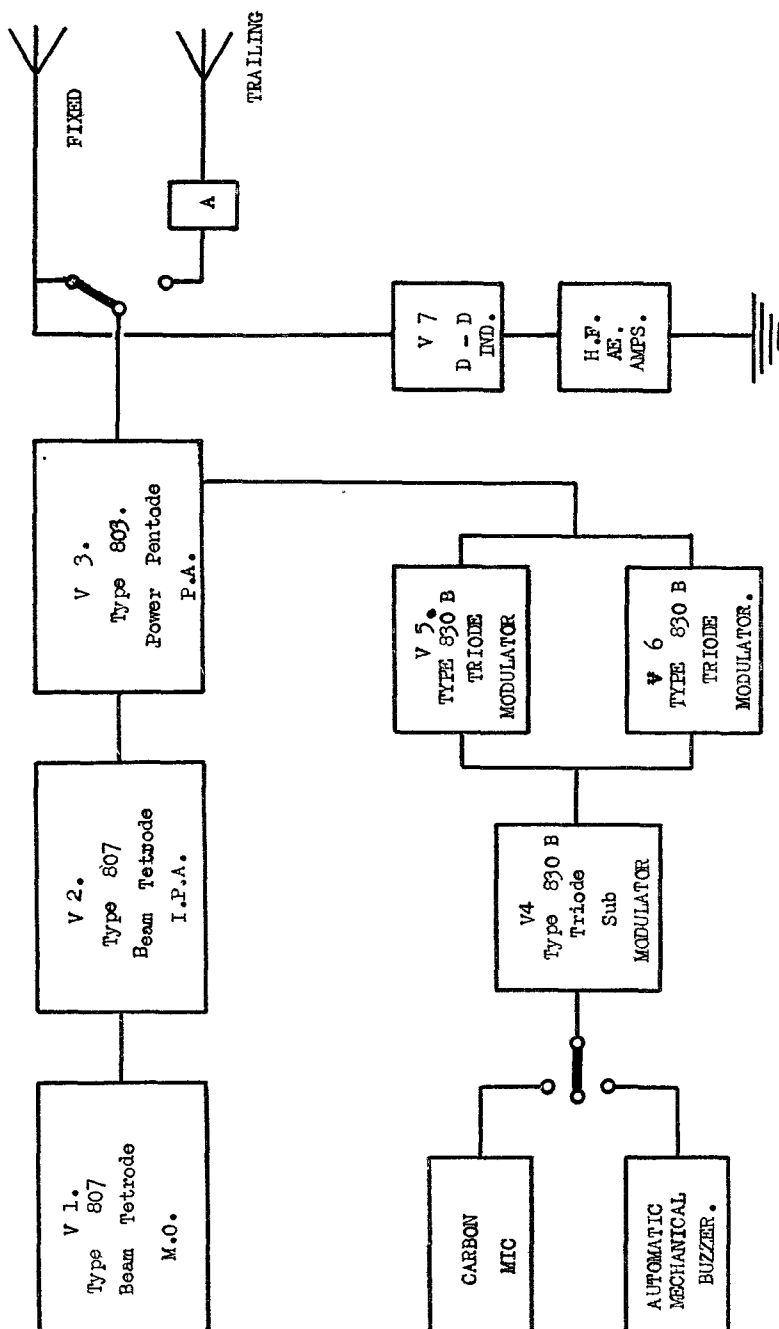

FIG. 99.—Block diagram transmitter, T A.—2J.
1. **Transmitter** (fig. 99).—(i) *Uses*.—Long-range aircraft transmitter for W., M.C.W. and R.T.